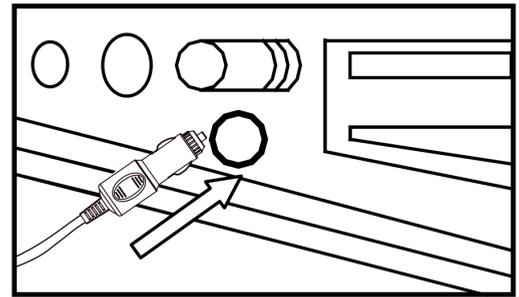

Figure 3.
- The power source should be 12V DC (Figure 3)
- Always keep the inlet and outlet of the pump (1) free of blockages.